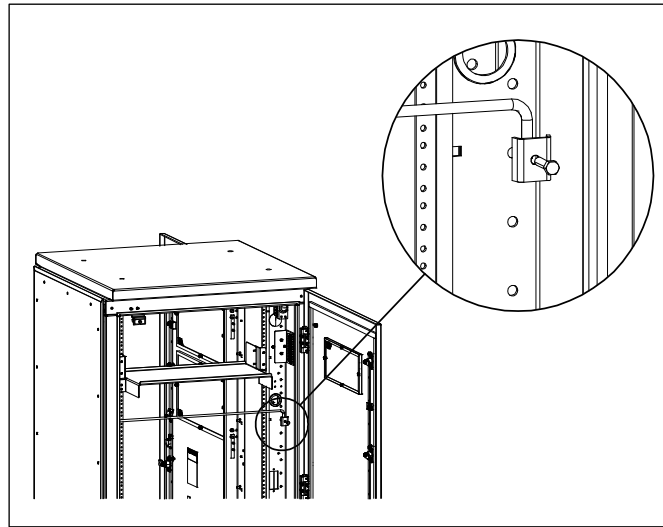

Figure 13 Install Hanging Bar
- The kit includes a hanging bar for mounting hanging equipment. Secure the bar to any desired position on the rear rack rails using the two mounting brackets (Figure 13). Make sure the bar sits across the top of the brackets, and that the brackets are horizontally level.